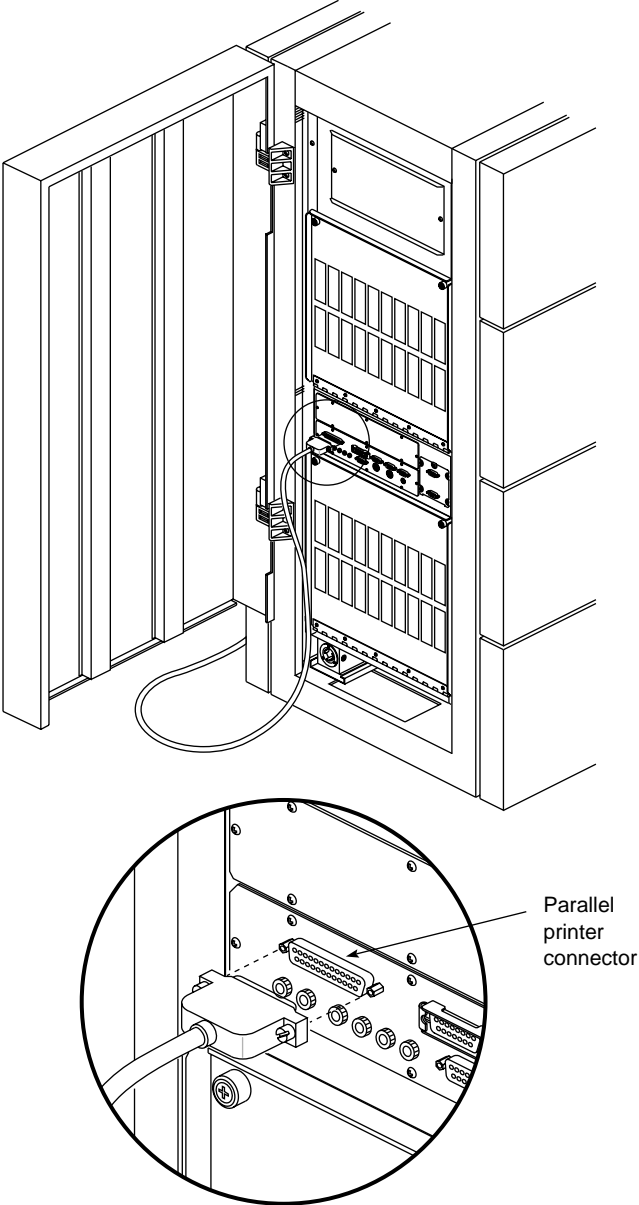

Figure 4-10 Connecting a Parallel Printer
4. Attach the free end of the printer cable to the parallel connector on the main I/O panel, as shown in Figure 4-10.